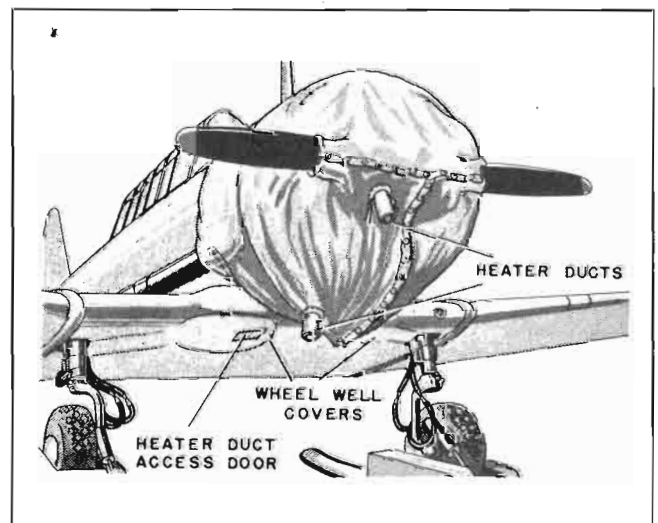

Figure 401 — Engine Cover
c. ENGINE COVER.—(See figure 401.)—To facilitate the warming of the engine under conditions of extreme cold, specially winterized airplanes have been equipped with an engine cover which encloses the propeller hub and extends aft to the fire wall to include the rear accessory section. The cover is made of waterproof fabric and is provided with a sleeve which accommodates a  $4\frac{1}{4}$ -inch heater tube for use in heating the front engine section. A heater tube may be inserted through a hinged access door located inside the right wheel well opening to warm the rear engine accessory section. Another access door in the right wheel well cover must first be removed to accomplish this operation.